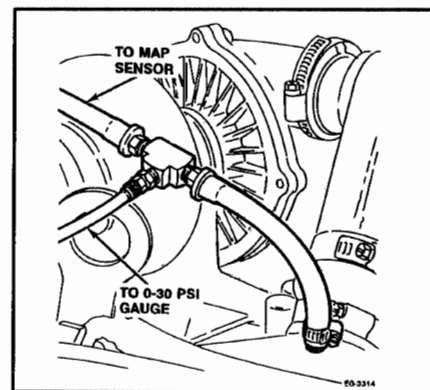

Figure 2.3-14. – Boost Pressure Tap Location
1. Install a tee into the MAP (Manifold Absolute Pressure) sensor line that comes from the intake manifold. (Figure 2.3-14.)